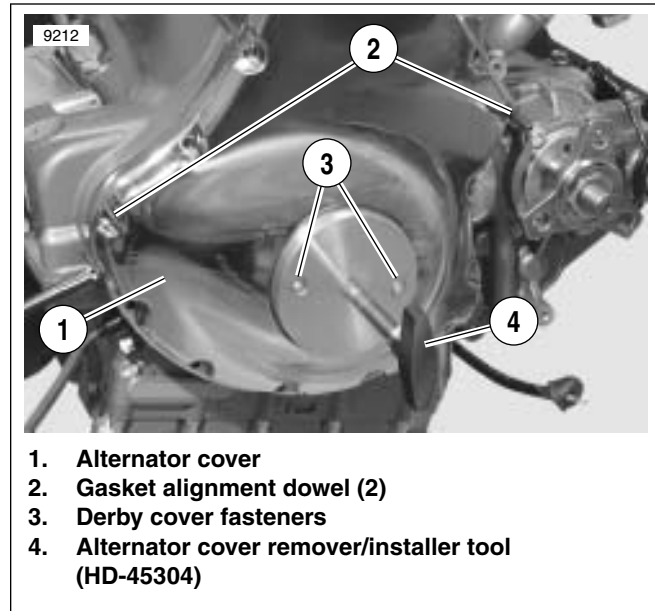

Figure 8-12. Removing Alternator Cover
10. See Figure 8-12. Using two inspection cover fasteners (3), position ALTERNATOR STATOR COVER REMOVER/INSTALLER TOOL (Part Number HD-45304) (4) as shown.
1. See Figure 8-12. Make sure ALTERNATOR STATOR COVER REMOVER/INSTALLER TOOL (Part Number HD-45304) (4) is installed as shown. Secure to alternator cover with two derby cover fasteners. Turn handle of tool clockwise (CW) several turns.
2. Make sure two GASKET ALIGNMENT DOWELS (Part Number HD-45340) (2) are installed in case.